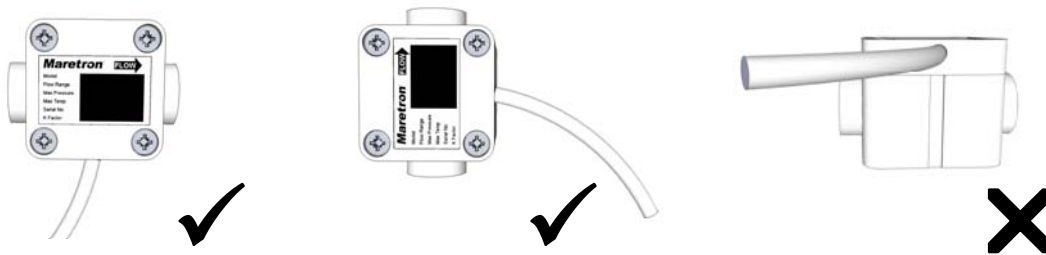

Figure 1 - Correct and Incorrect Mounting Orientations
2. The fuel flow sensor contains shafts on which the oval rotors spin. The fuel flow sensor must be mounted so that these rotor shafts are always in a horizontal plane (parallel with the ground or water surface). The rotor shafts are parallel to the four screws attaching the sensor cap to the sensor base, so ensure that these screws are in a horizontal plane. Please refer to Figure 1 below for examples of correct and incorrect orientations.